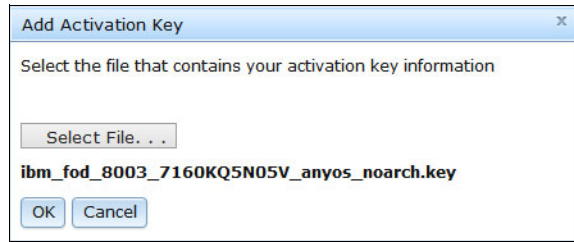

Figure 3-4 Intel I350 FoD key selection
- The Add Activation Key window opens. Click **Select File**, browse to the location of the key file, and click **OK**. In our example, you can see the Intel I350 activation key file is ready to be installed, as shown in Figure 3-4.